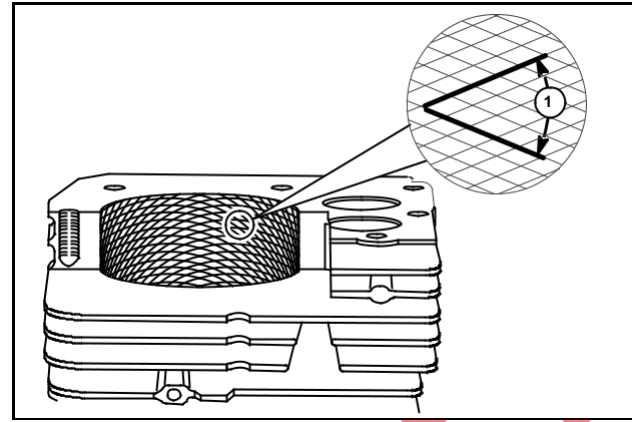

Fig. 3
The finish on a resized or reconditioned cylinder should have a 45 degree (1) crosshatch appearance, Fig. 3. Proper stones, lubrication and drill speed along with rapid movement of hone within the cylinder during the last few strokes, will produce this finish.